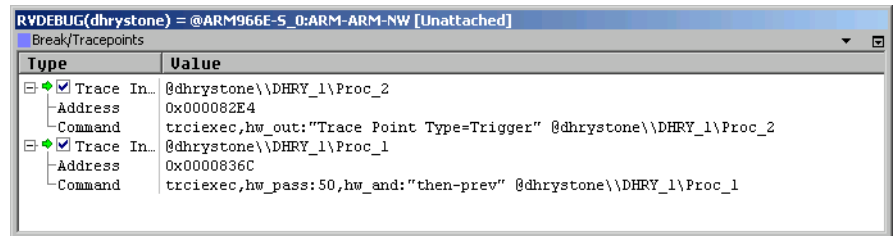

Figure 2-56 Break/Tracepoints pane with conditional tracepoints set
4. If you want to view the tracepoint details, select **View → Break/Tracepoints** from the Code window main menu to display the Break/Tracepoints pane, as shown in Figure 2-56.